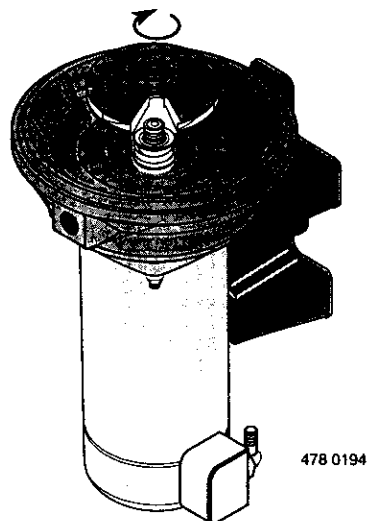

Figure 8
- Screw impeller on shaft (clockwise) while holding shaft with 7/16" open end wrench on shaft flats. This will automatically locate seal in place. See Figure 8.